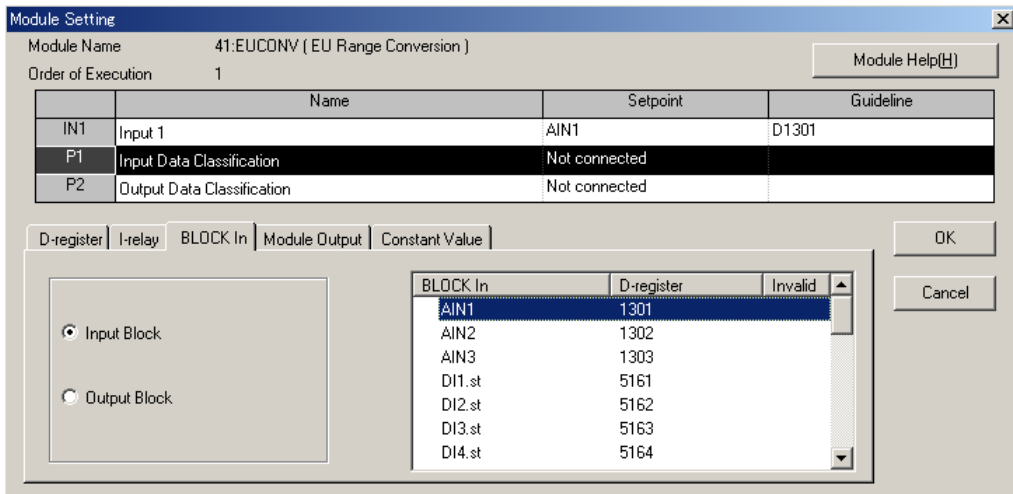

Figure 12.1.9 Configuration of the <IN1> Input
- (3) Click the [BLOCK In] index.
- (4) Double click the [AIN1] in the list box. (Setpoint: AIN1) and (Guideline: D1301) appears in the cell of [IN1].
- (5) The [P1] module parameter is waiting for the data setting.
- (6) Click the [Constant Value] index.
- (7) Enter "0" by keyboard of PC. (To register "0", press the enter key of PC.) (Figure 12.1.9)